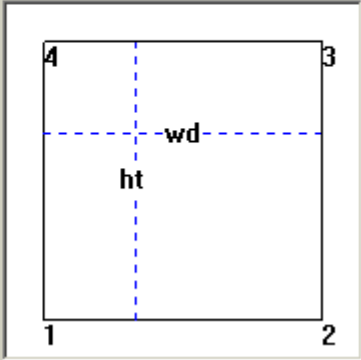

Figure 7.5: Doping Information
5. Left-click on [Doping Info] on the top of the Dialogue to set the doping. Select N-type, and maximum concentration to be $1.e23 \text{ (m}^{-3}\text{)}$. The edge profiles here indicate the Gaussian tail deviation outside of the edges of the rectangle. See Figure 7.5